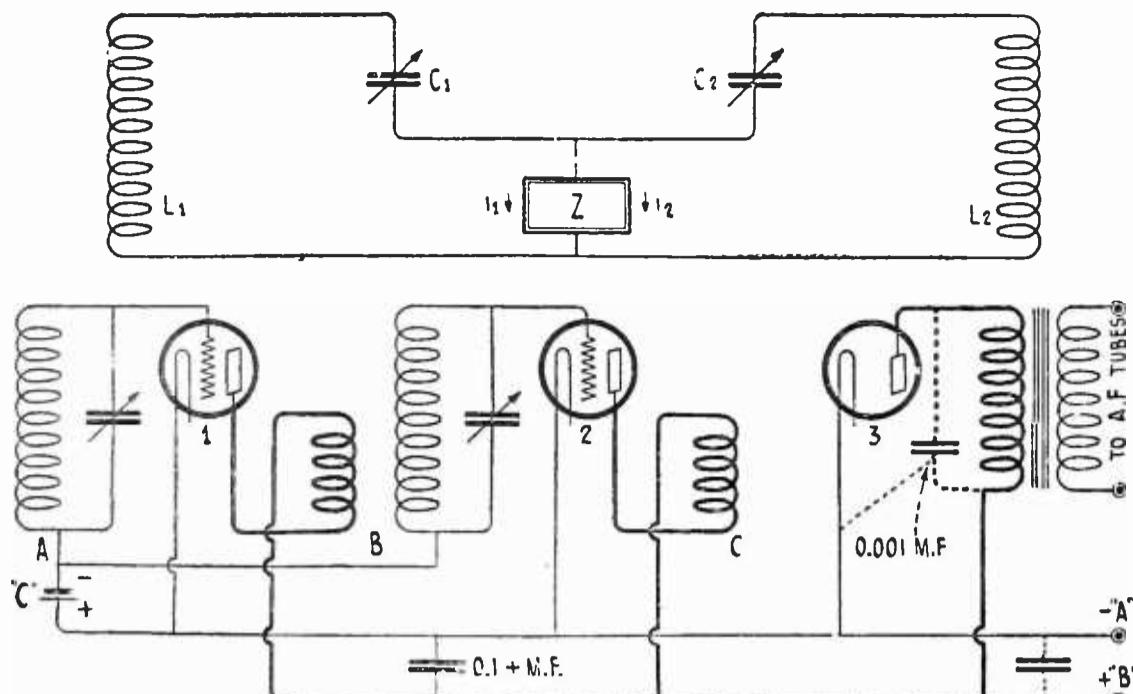

FIG. 4
**O**BJECTIONABLE coupling between circuits due to the use of a common C battery has proven very troublesome, but not unavoidable if proper precautions are taken. The coupling introduced by the battery is analogous to that introduced in the theoretical circuit shown at the top of Fig. 4 by the impedance Z. Here the current of circuit  $CL_1$  flows through the impedance Z which is common to circuit  $C_2L_2$ . It is evident that the current of one circuit will induce a voltage in the other, or it may be stated that if any portion of the current of one circuit flows through an impedance in common with any portion of the current of another, then these circuits will be coupled. The lower portion of Fig. 4 illustrates several ways in which this sort of coupling may be introduced (batteries, rheostats, and non-essential wiring are omitted to avoid confusing the figure) The plate circuits of tubes 1 and 2 carry radio-frequency currents which, like all other electric currents, must flow in closed paths. Let us trace the probable path of the radio-frequency current produced by tube No. 1. Starting at the plate it passes through the primary of unit B and thence to the B battery, through the battery, and back to the filament, where the electron stream completes the circuit to the plate. If it does take this path, the batteries and, more important, the leads to the batteries,
The detector plate circuit also carries radio-frequency current for which a reasonably low impedance path must be provided. If this path is not provided the signal will be considerably weakened. In regenerative circuits it is common practice to shunt the high impedances of the telephones or audio-frequency transformers by a condenser of about 0.001 microfarad capacity. This must also be done in the Neutrodyne, but care must be taken to connect this condenser from the plate of the detector *directly to its filament*. Otherwise if connected as shown alternatively in Fig. 4, a large radio-frequency current must pass through the B battery in order to complete its circuit. This might readily cause trouble.
**C**OUPLING sufficient to cause oscillation has been found when either a C battery or a common filament rheostat has been used to introduce a negative bias on the grids of the radio-frequency tubes. (See Fig. 4.) This is analogous to the coupling introduced by the common B battery, since the currents which pass through the grid filament capacities for